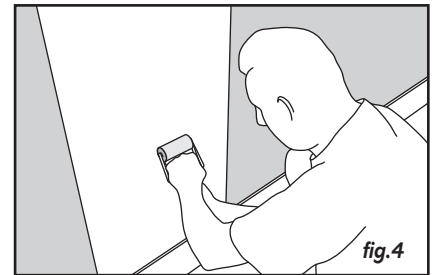

fig.4
- Press down over the entire surface of the panel, using a roller, and apply a pressure of 1 kg/cm2 (fig.4).
- Cut back any excess filler above the joint using a knife (fig.4).